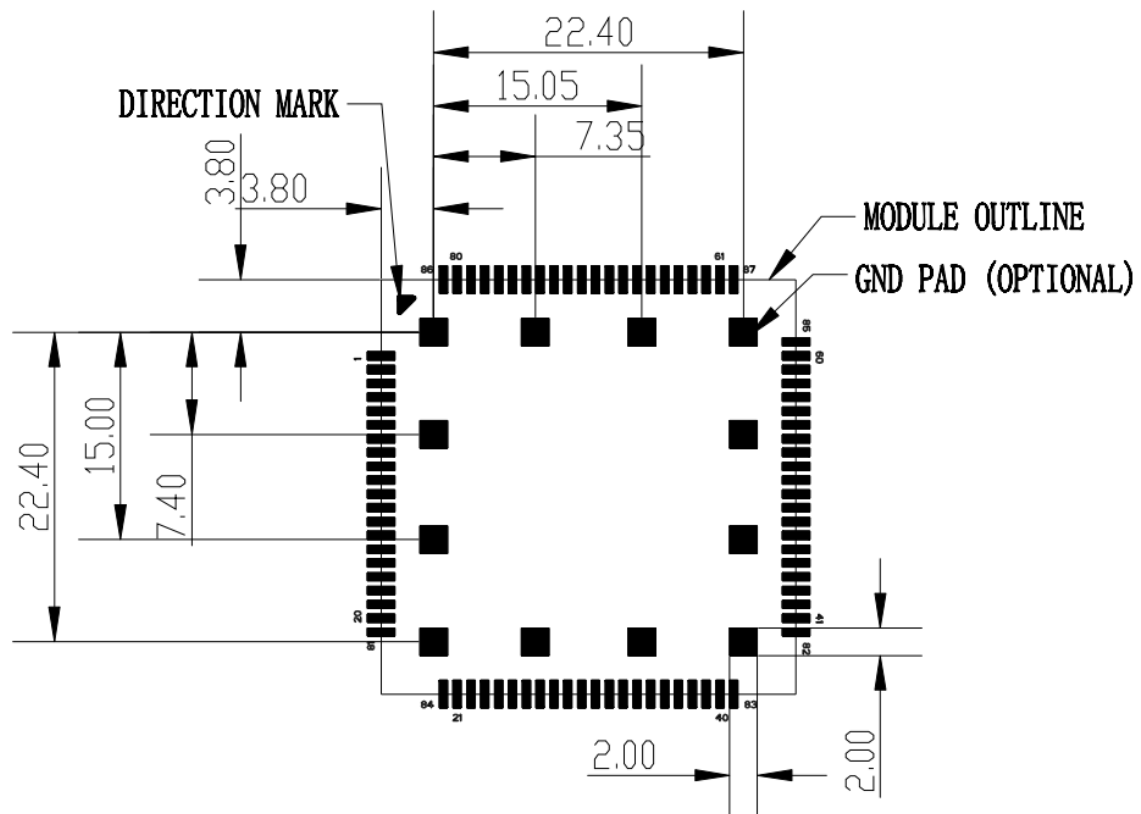

Figure 6-2 Steel mesh (unit mm) (detail B)
- Module pad thermal welded steel mesh openings are recommended for reference. Figure 6-1 and Figure 6-2 is recommended for steel mesh and size.